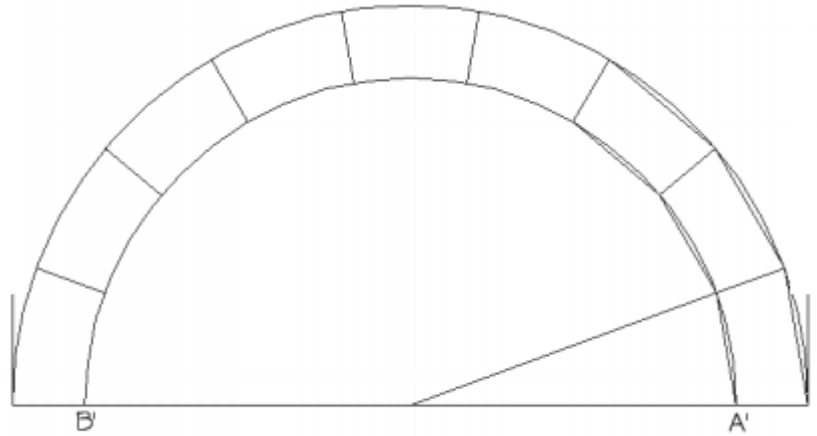
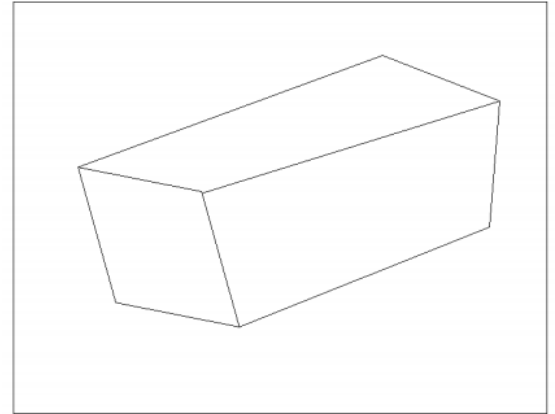
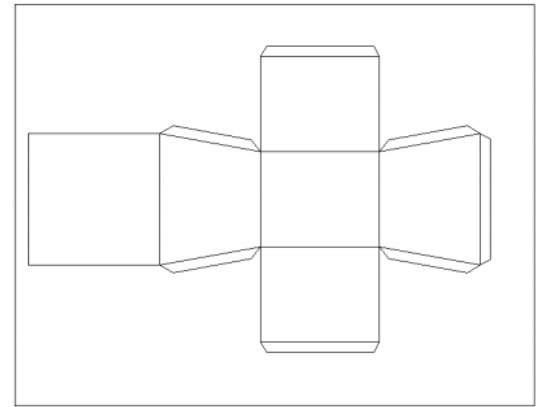

Figure 13.1
Figure 13.2a
Figure 13.2b
5. Once your design for the arch is complete, you may enlarge it on a copy machine or transfer it to a larger scale for actual construction. All you actually need is one voussoir pattern from your arch pattern (Figure 13.1), separated from all the rest, since all copies will be exactly the same. Once you have done this, you must use this piece—which will actually be a front panel—to design a kind of “box” which will become a three-dimensional voussoir/stone. You must not only add a corresponding back panel (exactly the same as the front), but a top, bottom, and two sides. A sketch is provided in Figure 13.2a, with a fully laid out net (design for the whole box) in Figure 13.2b.